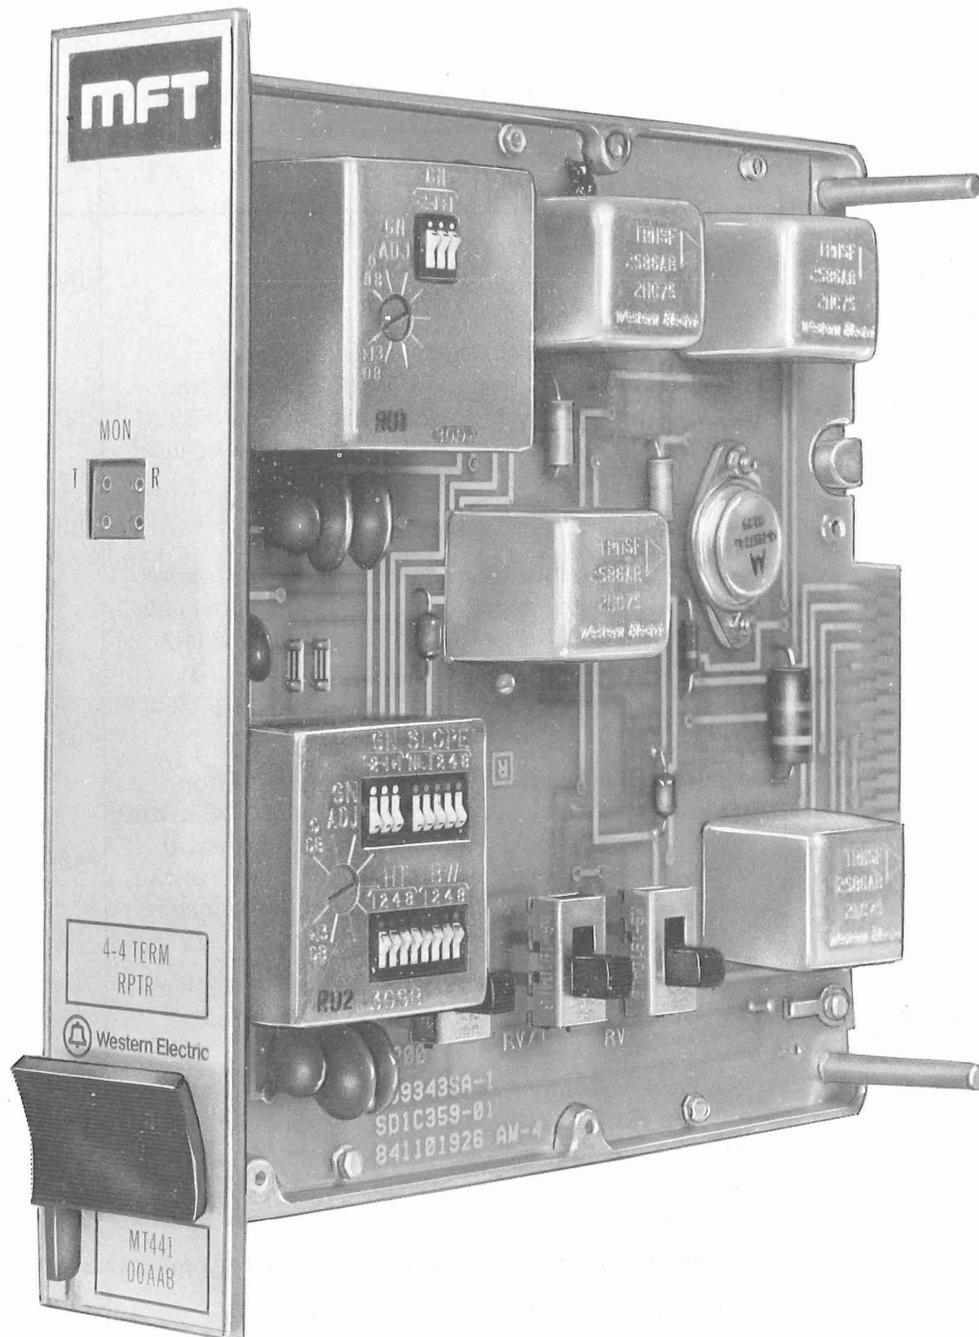

Fig. 1—Typical MFT Plug-in Unit
A. MFT Transmission Units (TU)
2.01 The CPFT mounting arrangements will accommodate any of the various MFT transmission units, of which Fig. 1 is typical. The particular type of unit to be used in each case will be determined by the type of termination needed and the transmission enhancement required.